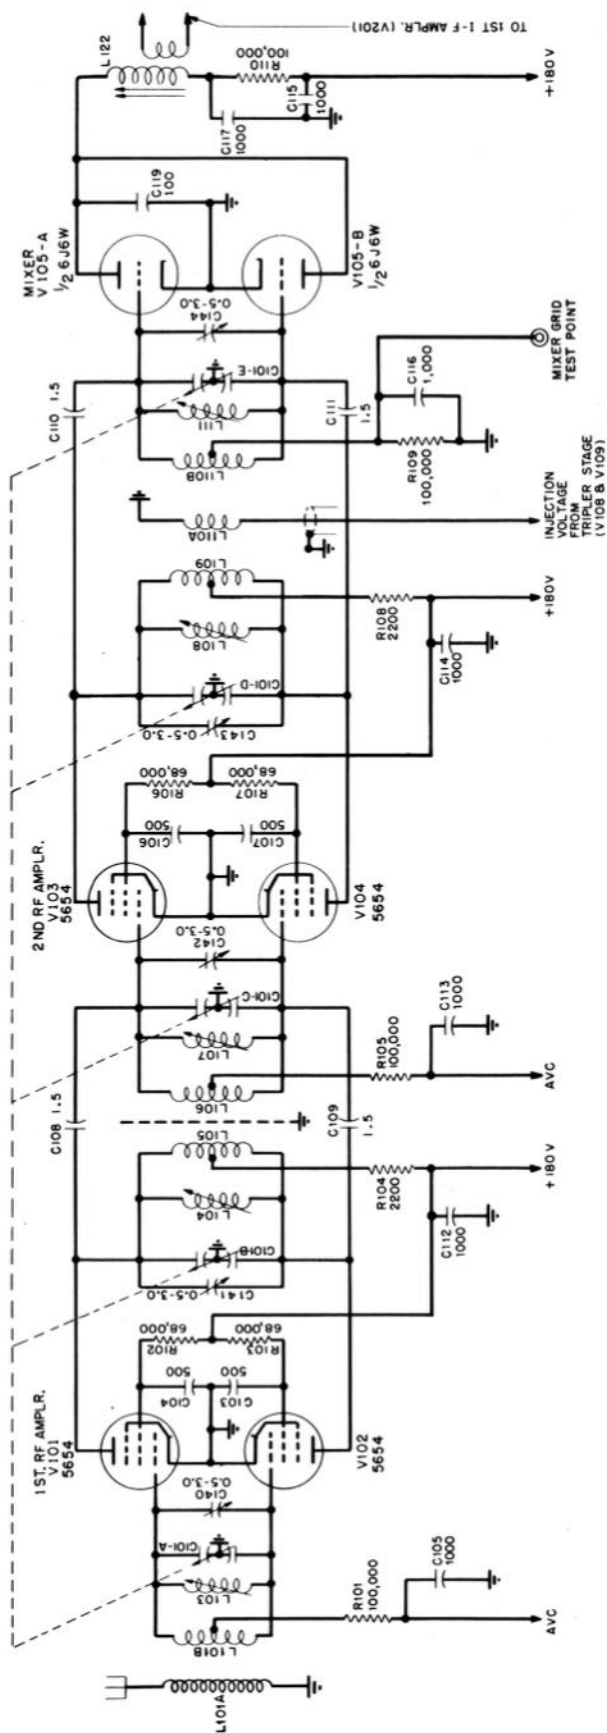

Figure 2-2. Simplified Schematic—R-f Amplifier Section of Preslector
(1) R-F AMPLIFIER SECTION (figure 2-2).
(c) **FIRST R-F AMPLIFIER.** As shown in the simplified schematic diagram, figure 2-2, the antenna circuit is coupled to the grid input circuit of this stage. The grid circuit consists of tank inductance L102, trimmer inductance L103, a section of capacitor C101, and trimmer capacitor C140. Two type 5654 pentode tubes, V101 and V102, are operated in push-pull. The push-pull arrangement serves to reduce the lengths of the connecting leads to a minimum and to cancel out spurious radiation of unwanted signals into the antenna. AVC voltage is applied to the grid circuit of this stage through decoupling resistor R101 and the center tap on coil L102. A feed-through type r-f by-pass capacitor (C105) functions to by-pass the AVC line at this point. This capacitor is located in the casting wall. The screen voltage is applied through screen voltage-dropping resistors R102 and R103. The 180-volt supply is by-passed to ground at this point by capacitor C112, while resistors R102 and R103 are by-passed by the button-type silver-mica capacitors, C104 and C103, respectively. The plate circuit is similar in design to the grid circuit and consists of basic inductance L105, a section of C101, trimmer inductance L104, and trimmer capacitor C141. Plate voltage is brought through resistor R104 to the center tap on coil L105. No appreciable inductive coupling exists between the plate circuit of the first r-f stage and the grid circuit of the second r-f stage because coils L105 and L106 are shielded from each other by the wall of the casting. Coupling between these two stages is accomplished by means of capacitors C108 and C109, which are connected directly from the plates of the tubes in the first stage to the grids of the tubes in the second stage. With tubes having a nominal value of transconductance, the gain of the first r-f amplifier is approximately 10db.
(d) **SECOND R-F AMPLIFIER.** This stage, employing tubes V103 and V104 in push-pull, is identical in design and in circuit constants to that of the first r-f stage (figure 2-2). The tuned grid circuit consists of a section of capacitor C101, tank inductor L106, trimmer inductor L107, and trimmer capacitor C142. The plate circuit consists of a section of capacitor C101, tank inductor L109, and the trimmers L108 and C143. AVC voltage is brought to the center tap of coil L106 through decoupling resistor R105; the AVC line is by-passed to ground by capacitor C113. Plate voltage is brought through resistor R108; screen voltage is connected from the junction of C114, R108, the supply is by-passed to ground at this point by capacitor C114. R107 and R106 are screen voltage-dropping resistors, which are by-passed by
(e) **MIXER.** The mixer, or first detector, stage employs a JAN type 6J6W dual triode, V105, in a push-push arrangement (figure 2-2). The grid circuits are connected in push-pull through the resonant circuit consisting of a section of capacitor C101, tank inductor L110, trimmer capacitor C144, and trimmer inductor L111. The plates of the tubes are connected in parallel to plate transformer L122. Capacitor C119, connected between the plate of one mixer tube and ground, serves to tune L122 to resonance at the intermediate frequency. This capacitor is connected directly to ground to provide a low-impedance path for other than intermediate frequency r-f currents. With the push-push arrangement of the mixer a high order of conversion gain is obtained because the push-push conversion transconductance is approximately twice that of a single converter tube.